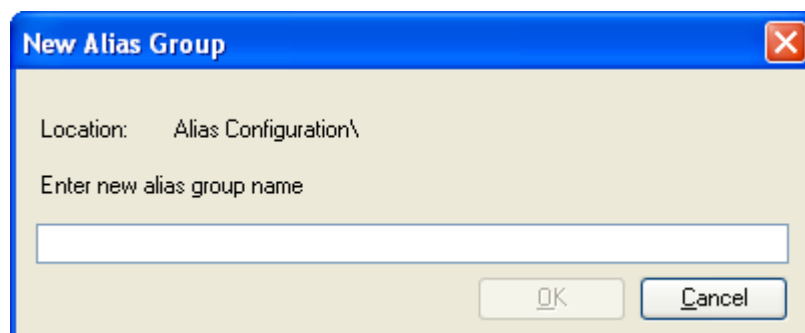

Figure 14 - New Alias Group Window
3. The **New Alias Group** window (Figure 14) appears.